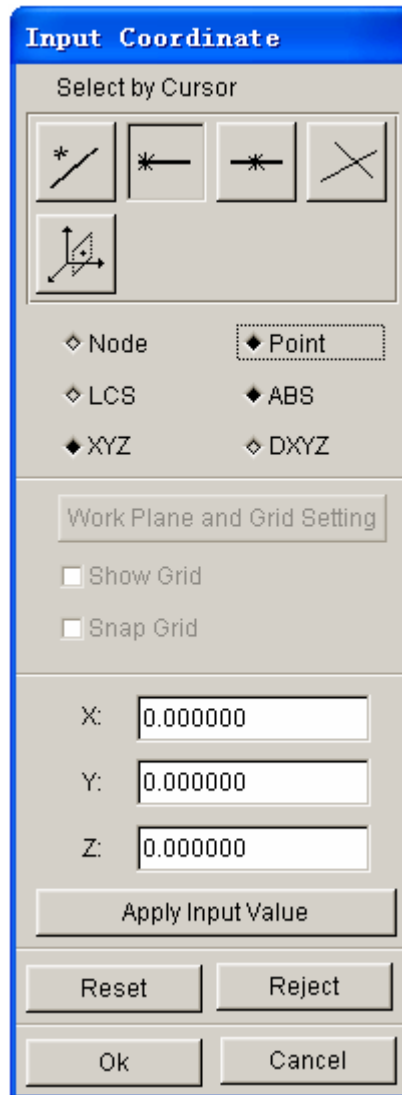

Figure 6.2.14 INPUT COORDINATE dialog box for selecting origin of the LCS
4. The user can also create a LCS which U, V and W axes are parallel to the X, Y, Z of global coordinate system. Click on the CREATE button to display a dialog box as illustrated in Figure 6.2.14 to define the LCS. Select a point as the origin and click on the OK button to create the LCS. Click on the SELECT button to display the SELECT LCS dialog box, following by clicking on the C.S.ID button to select the appropriate identification number of the LCS.